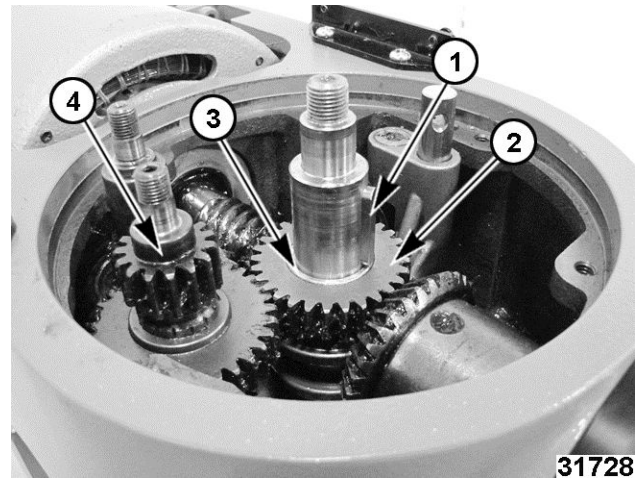

Fig. 24
11. Remove planetary shaft upper key (1, Fig. 24).
12. Remove third gear and bushing (2,3, Fig. 24).
13. Remove transmission shaft assembly (4, Fig. 24).